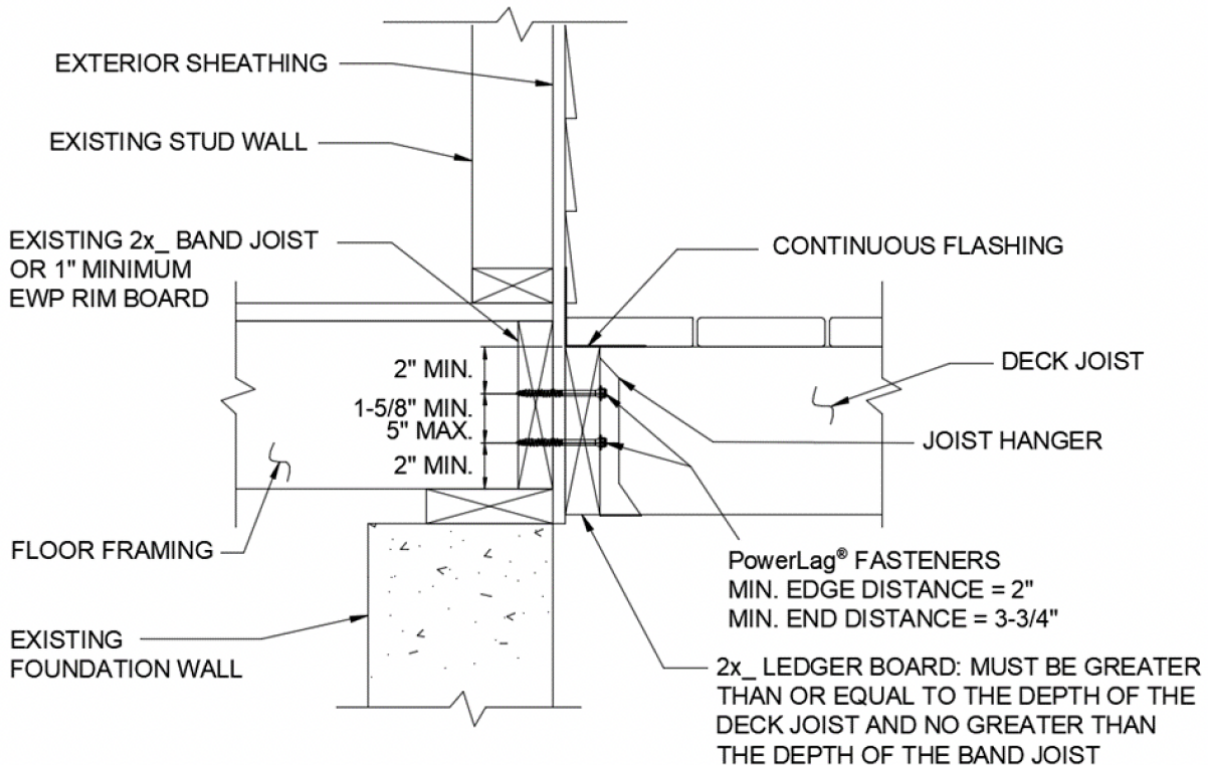

FIGURE 3. POWERLAG® FASTENER DECK CONNECTION
- 6.5 Figure 3 shows a detail of the PowerLag® fastener deck connection, including minimum edge and end distances.